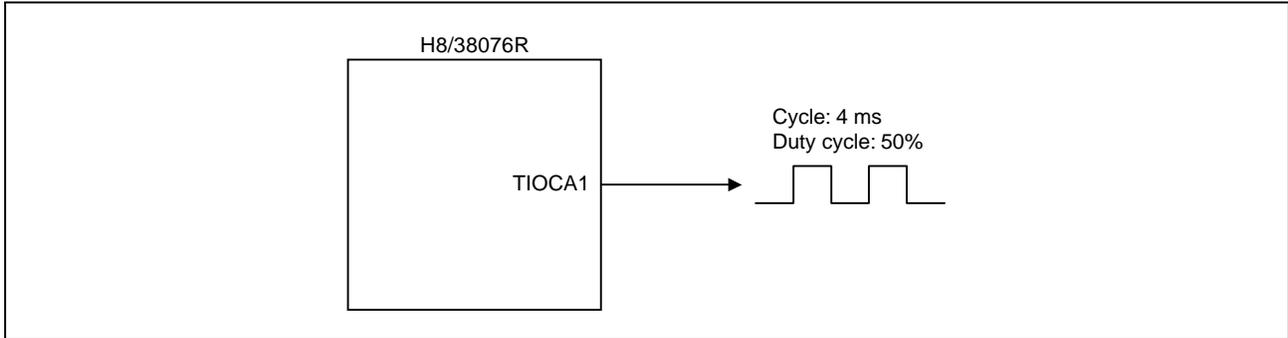

Figure 1 Example of Pulse Output Using TPU Output Compare Function
- An example of pulse output by means of the TPU output compare function is shown in figure 1.